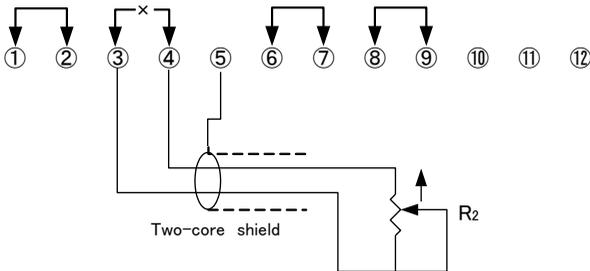

Fig. 8
- 2) Remove the short bar ③—④ and connect variable resistor R_2 across ③ and ④ as shown Fig. 8. Use a two-core shield cable and connect the shield line to ⑤.